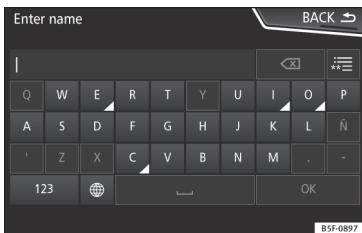

Fig. 230 Search window.
- Enter the name of the contact you are looking for in the window » Fig. 230. While the characters are being entered, a contact is displayed in the input field.